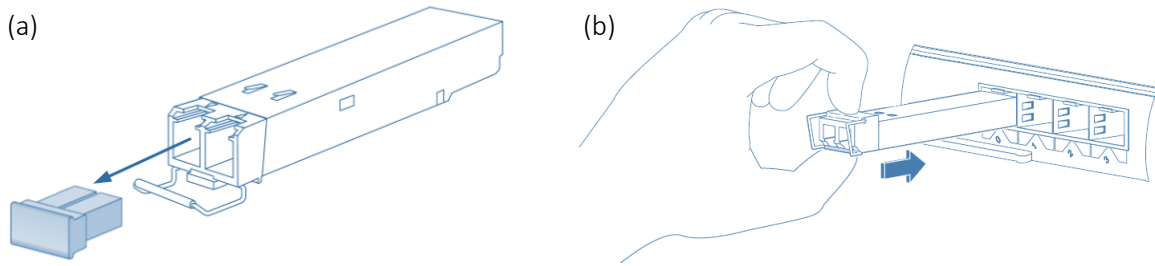

Figure 6 – SFP+ Module Installation.
1. Remove the dust plugs from the module as shown in Figure 6 (a).
4. Line up the module with the port and slide it into the port as shown in Figure 6 (b).